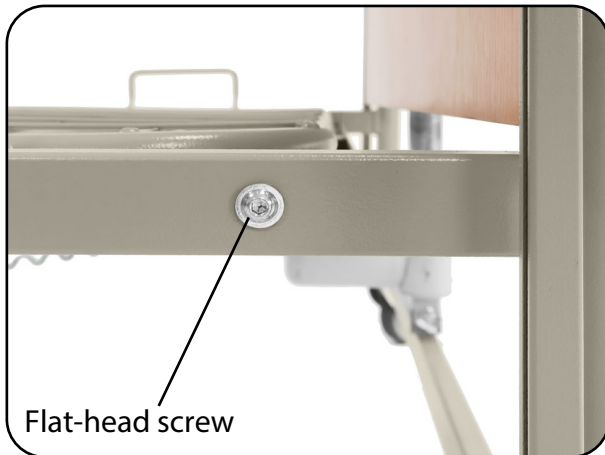

Fig. 6.6.03 – Flat-head screws on foot end of bed surface frame
6. Undo the two flat-head screws at the foot end that connect the bed surface frame to the stand part (Fig. 6.6.03).